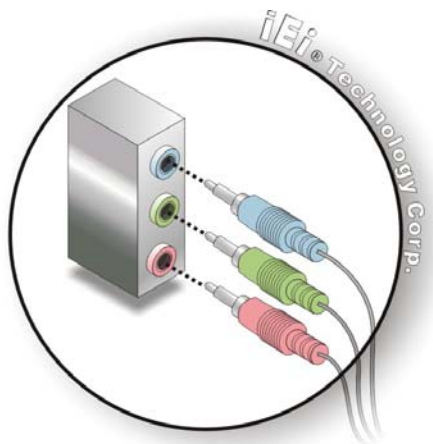

Figure 5-22: Audio Connectors
Step 2: **Insert audio phone jack plugs.** Insert audio phone jack plugs into the audio phone jacks on the external peripheral interface. See Figure 5-22.